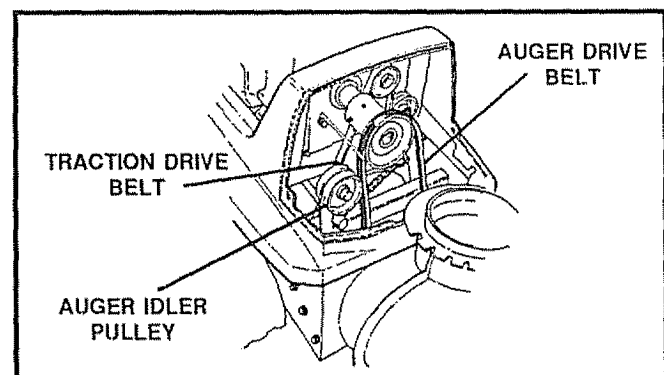

FIG. 24
### TRACK DRIVE BELT (See Fig. 24)
### AUGER DRIVE BELT (See Fig. 24)
- Loosen the nut on the idler pulley (See Fig. 24) and move the pulley toward the belt about 1/8".